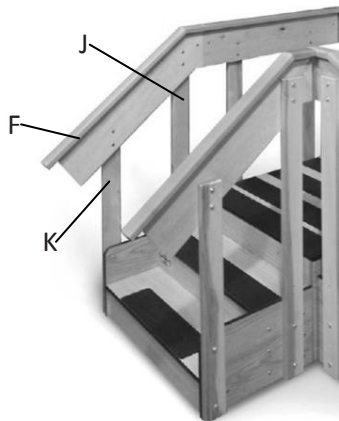

Figure 9: Medium Handrail 'F'
12. Attach the Medium handrails 'F' on the inside part of the 'J' & 'K' uprights so that Barrel bolts 'S' on the handrails should be facing inwards using Pan Head/Philips screw 'R' with Flat washer 'U' as shown in Figures 9.